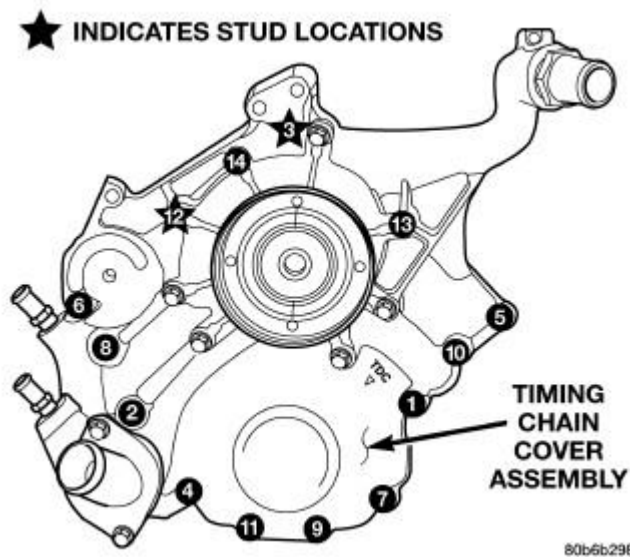

Fig. 174: Timing Chain Cover Removal/Tightening Sequence
11. Remove the bolts holding the timing cover to engine block. Refer to **Fig. 174**.